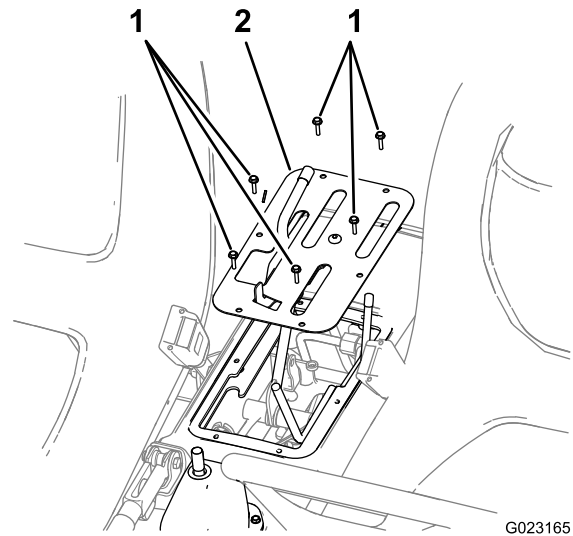

Figure 7
4. Remove the 6 screws securing the outside edge of the cover plate of the center console to the chassis and remove the cover plate (Figure 7).